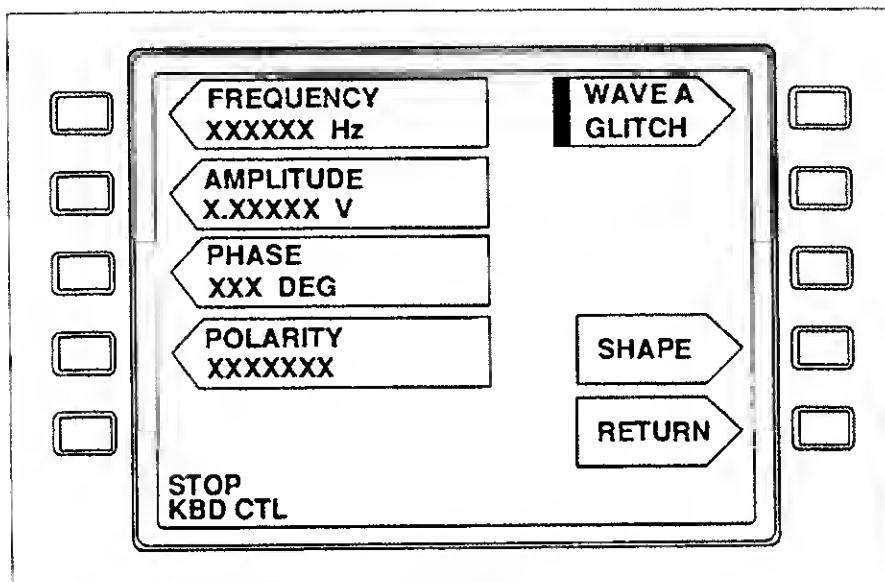

Figure 3-12. GLITCH Waveform Parameters Menu
- (1) From the COMBINED WAVES setup display, select GLITCH for one of the waves.
- (2) In the parameter setup display (Figure 3-12), select the following: